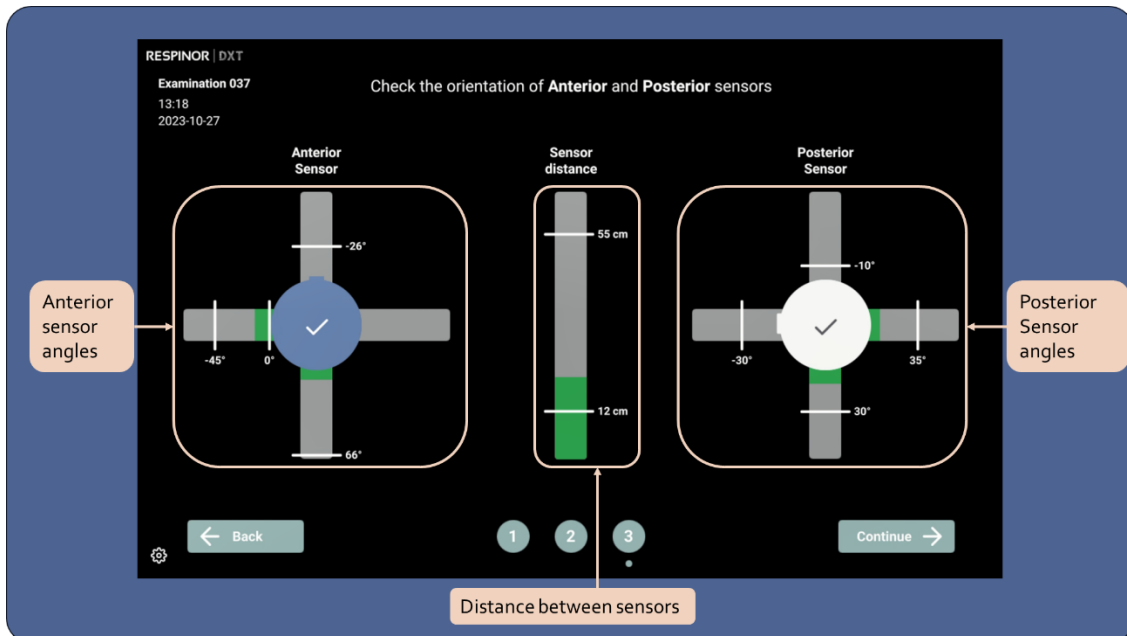

Figure 7. Example of correct orientation of Sensors and distance between Sensors.
The interactive Sensor Positioning screen displays the angles of the Anterior and Posterior Sensors and the distance between them, to assist in accurate sensor positioning (Figure 7).
- Correct sensor orientation and distance: the axes are green, and a symbol (✓) appears on the screen (Figure 7).